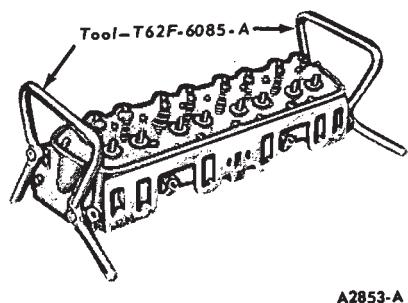

FIG. 25—Cylinder Head Holding Fixtures—302-2V and 351-W Engines
6. On 302-2V and 351-W engines, install the cylinder head holding fixtures (Fig. 25).